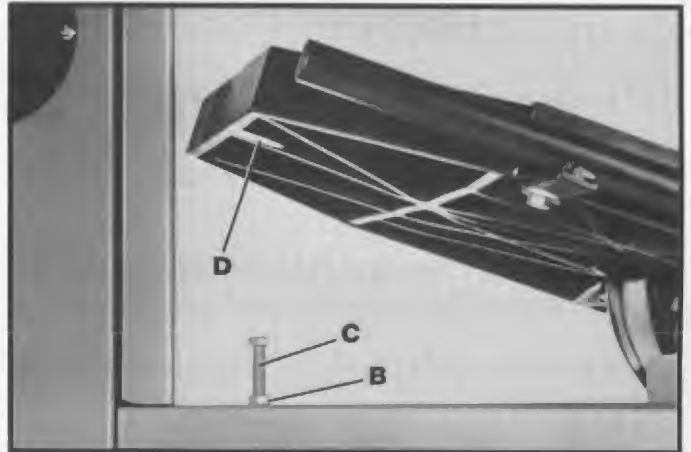

Fig. 21
3. If an adjustment is necessary, loosen locknut (B) Fig. 21, and tighten or loosen adjusting screw (C) until head of screw (C) contacts bottom (D) of table when the table is at 90 degrees to the blade. Then tighten locknut (B).